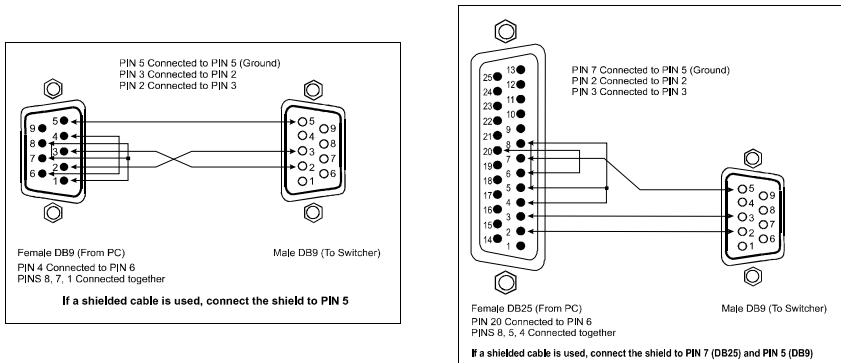

Figure 4: Connecting a PC without using a Null-modem Adapter
- Connect the RS-232 DB9 port on your PC to the RS-232 DB9 rear panel port on the **VS-4228** unit, as Figure 4 illustrates (depending on whether the PC has a 9-pin or 25-pin connector)